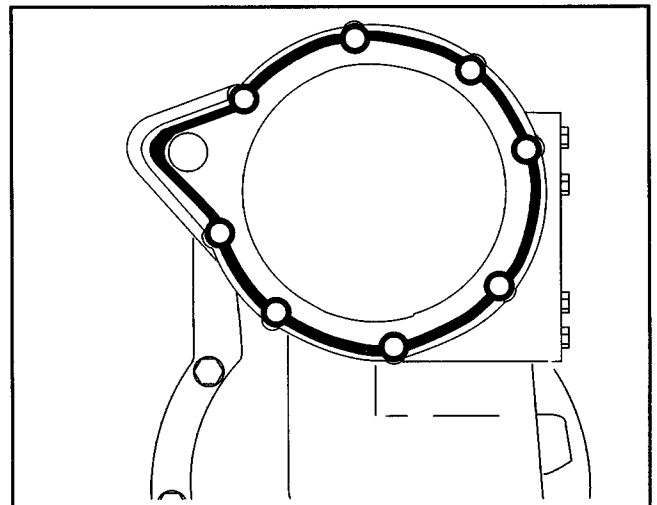

Figure 16
27. Apply 1/16" bead of Loctite #518 gasket eliminator to mating surface on rear side of input shaft bearing retainer (See Figure 16). Position retainer onto intermediate case. Install bolts and tighten to 100-120 Lb-Ft (136-163 N-m). Again check end play to assure proper setting.
32. Clean mating surfaces and place 1/16" bead of Loctite #518 gasket eliminator onto intermediate case (See Figure 16).